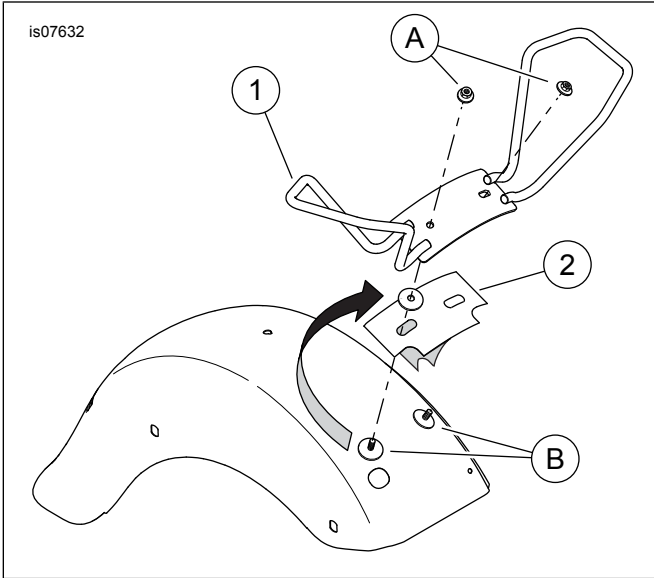

Figure 1. Service Parts, Passenger Grab Rail Kit
See Figure 1 and Table 1.
2. See Figure 1. Remove nuts (A) from stud plate. Save for installation.